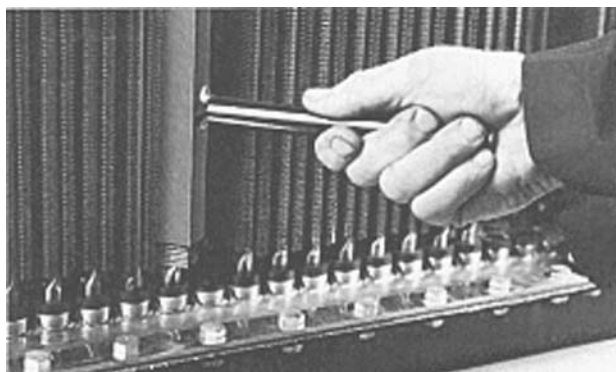

FIGURE 3-6. BREAKER TOOL (XA2307)
1. Start at the top row of tubes. Use the breaker tool (XA2307) to loosen the tube to be removed. When using the breaker tool, position it at the top or bottom of the tube. Never position it in the middle of the tube or damage may result. Use the breaker tool to lightly twist the tube back and forth within the seals to loosen the grip. Refer to Figure 3-6.